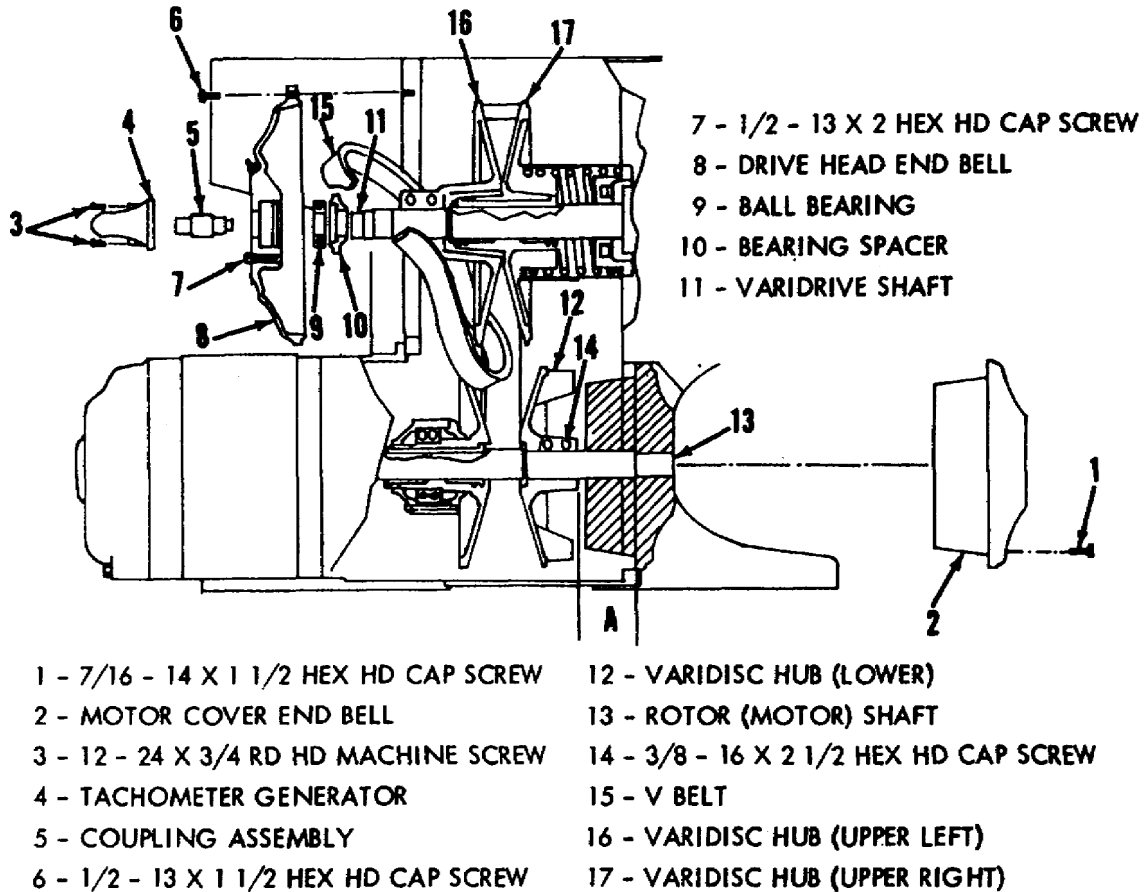

Figure 13. Varidrive and tachometer generator assembly.
b. The varidrive assembly (fig 13) is shock-mounted to prevent control panel vibration. A speed transmission and motor are embodied in this self-contained unit. The front panel drive speed control allows the unit's RPM to be varied over a wide range. Rotating the control counterclockwise causes the moveable lower varidisc hub, mounted on the rotor (motor) shaft, to slide toward its companion varidisc. The added tension on the V-belt causes the moveable varidisc on the driven shaft to retract against the spring. This simultaneous action causes the V-belt to assume a larger diameter on the lower varidisc and a smaller diameter on the upper varidisc. The speed of the driven shaft is therefore increased while motor speed remains constant.